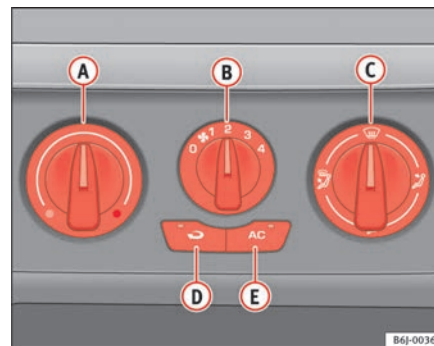

Fig. 91 Air conditioning controls on the instrument panel
- Disconnect the cooling system using button ⇒ fig. 91  (the button light turns off).